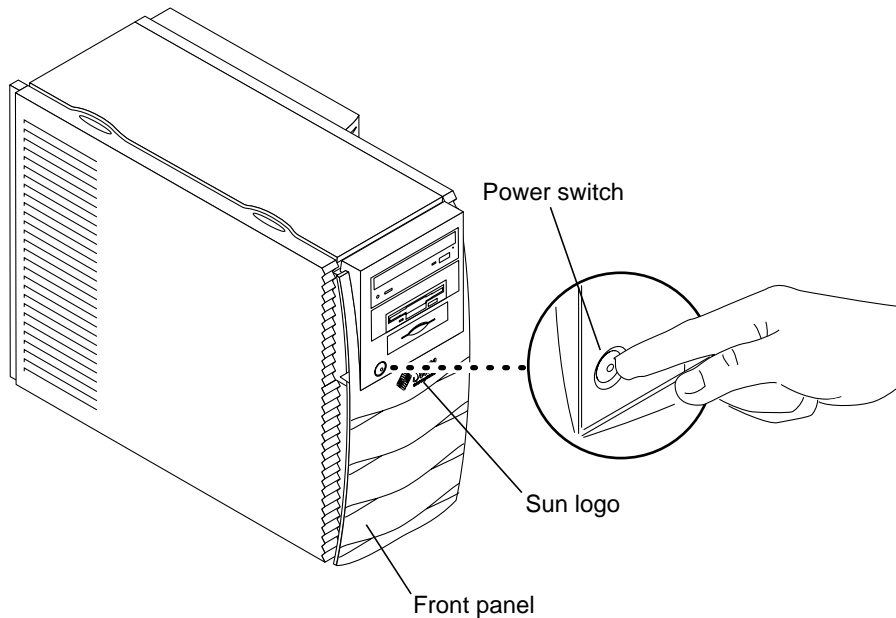

FIGURE 5-1 Workstation Power Switch
- i. Press and release the front panel power switch (FIGURE 5-1) to automatically shut down all programs, the Solaris operating environment, and to power off the workstation.
- i. Press the front panel power switch (FIGURE 5-1) to power off the workstation.
- c. If the workstation is at the `ok` prompt (OpenBoot interface) press and hold the front panel power switch for four seconds (see FIGURE 5-1) to power off the workstation.